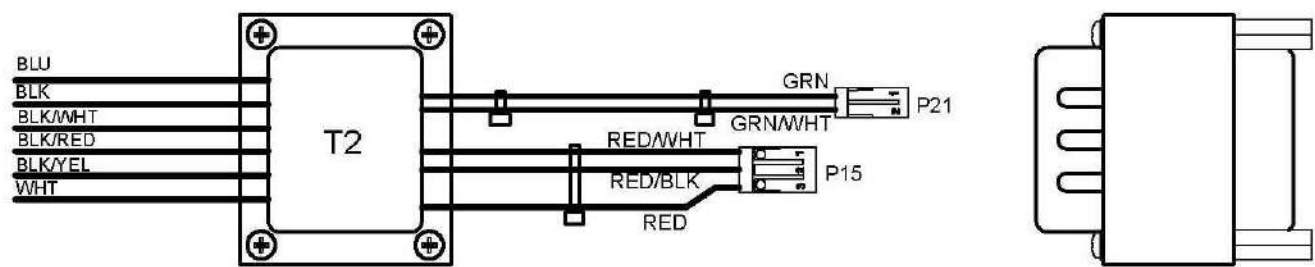

Figure 6-19. Transformer Assy (T1)
**11104700A REV B TRANSFORMER ASSY (T1) (Figure 6-19)**